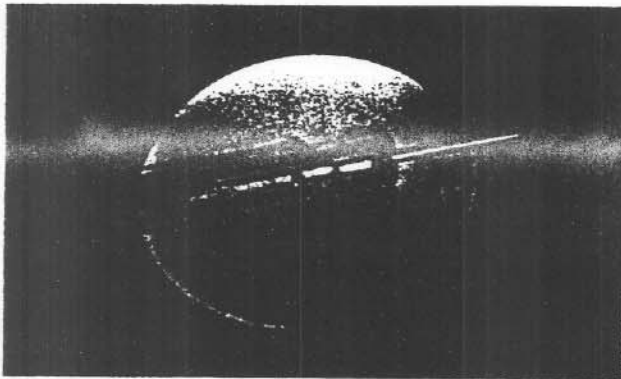

FIGURE 2
Punch two lead wire holes in the speaker cone (3). Locate these holes $\frac{1}{4}$ -inch apart and $\frac{1}{4}$ -inch from cone lip (Figure 2).